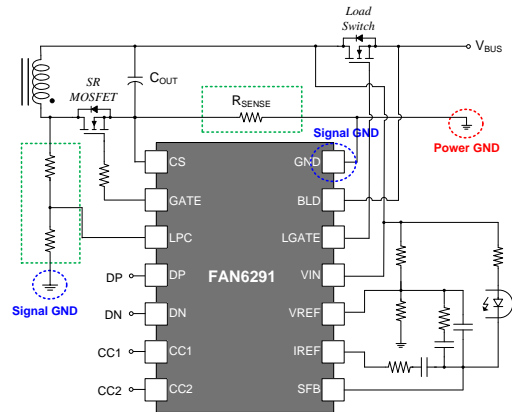

Figure 32 Power and Signal Ground on the Secondary-Side
- The main power flows through Q2, COUT1, COUT2 and RCS. This power path should be separated with signal grounds which are connected to FAN6291Q. In addition, it is recommended that power ground is directly connected to Y-cap. Refer to Figure 32.